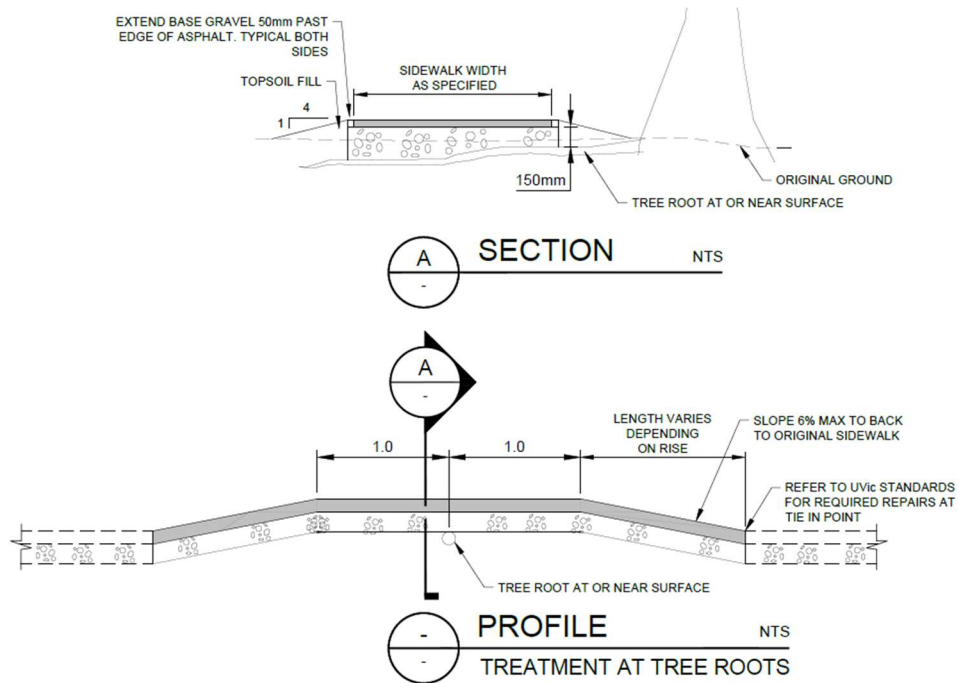

Figure 32 10 00.1
13. Removal of 1 tree requires planting 3 trees. Species, size and location of new trees determined by Owner. UVic to be notified when roots are encountered before proceeding with work in that area. As a rule, roots larger than the diameter of your thumb should not be disturbed. If roots are present refer to figure 32 10 00.1 for details.